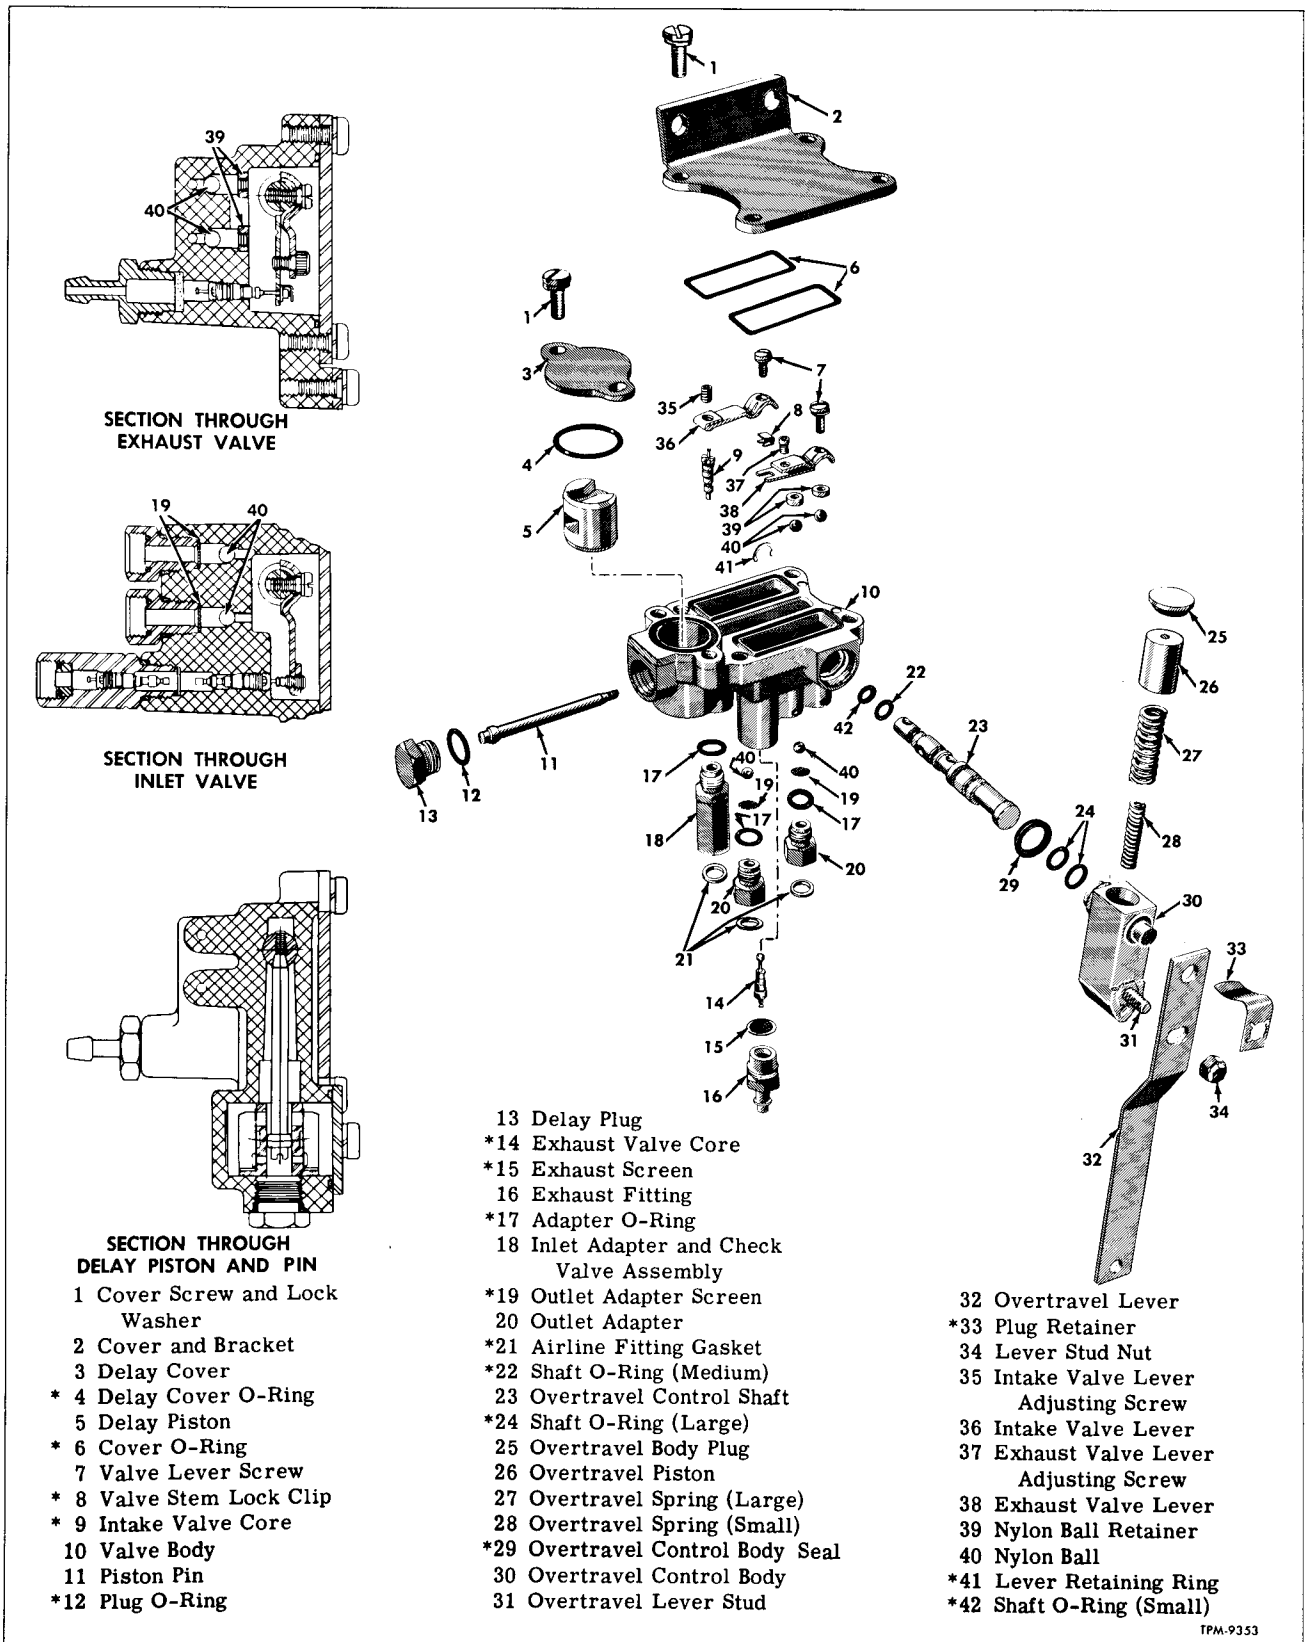

Figure 34—Height Control Valve and Components—Front
- Remove exhaust fitting (16, figs. 34 and 35) and exhaust screen (15, figs. 34 and 35) from valve.
1. Place new O-ring (12, figs. 34 and 35) over delay plug (13, figs. 34 and 35), then install plug into valve body. Tighten plug to 20-30 inch-pounds torque.
NOTE: (Refer to figures 34 and 35.) After obtaining proper valve adjustments, install valve cover using new rubber O-rings or gasket (6). Install new screen (19), in bellows port, then using new O-ring (17), install outlet adapter (20) into bellows port. (NOTE: On front valves, two outlet adapters (20), screens (19), and nylon balls (40) are used.) If screen (15) was removed from exhaust port, install new screen and exhaust fitting (16).
by asterisk (*) in figures 34 and 35.
Key numbers shown in text refer to figures 34 (Front Valve) and 35 (Rear Valve). All parts common to both valves will have a common key number. Key numbers not common will be denoted by letter suffix "F" (Front) or "R" (Rear).